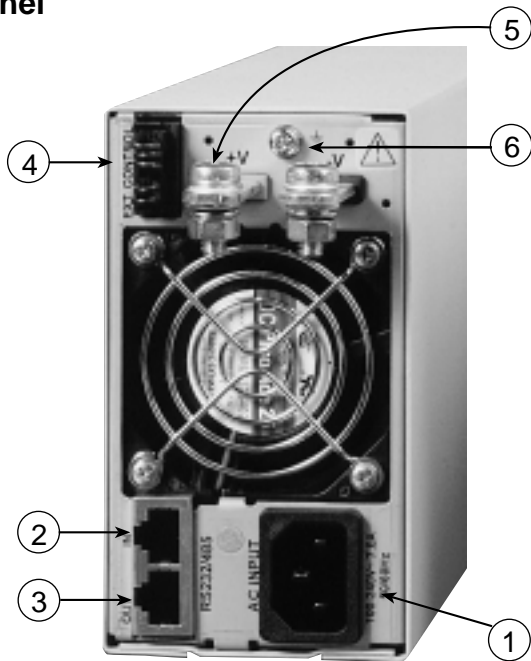
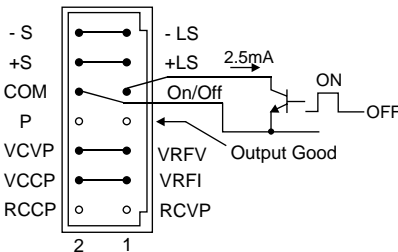
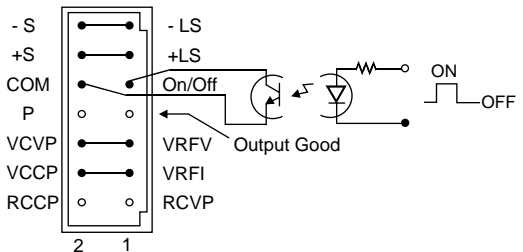

Fig. 4-2: Rear panel connections
Fig. 4-3: ON/OFF Control, references to - Sense.
Fig. 4-4: Floating ON/OFF Control
Contacts 9, 10 at the rear panel External Control connector (fig. 4-2, item 4) serve as ON/OFF terminals. Either short circuit or TTL '0' level enables the power supply output and open circuit or TTL '1' level disables the power supply's output. An open collector transistor can be used for the ON/OFF control as shown in fig. 4-3, with sink current ability of more than 2.5mA. Please note that pin 10 (COM) is internally connected to the - Sense potential, therefore for floating ON/OFF Control a photocoupler should be used as shown in Fig. 4-4.